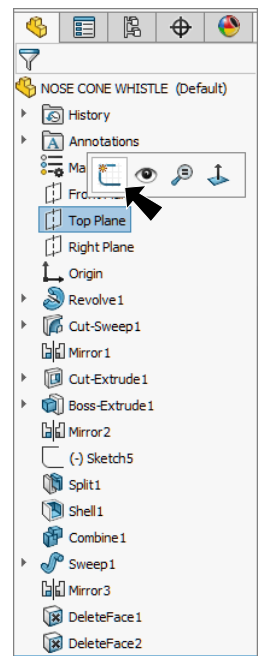

Fig. 69
Step 1. Click **Top Plane**  in the Feature Manager and click **Sketch**  on the content toolbar, **Fig. 69**.